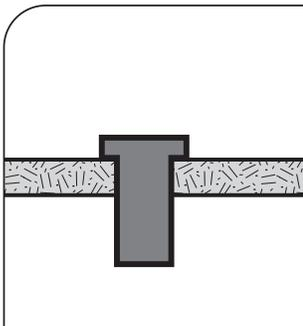

Fig. 3.5. Well-Nut is inserted into a pre-drilled hole with its flange against the outer surface. There is no need for access to the inner side.
11. Insert the ¼" Well-Nut into the drilled holes so that only the flange section remains above the roof surface (Fig. 3.5).